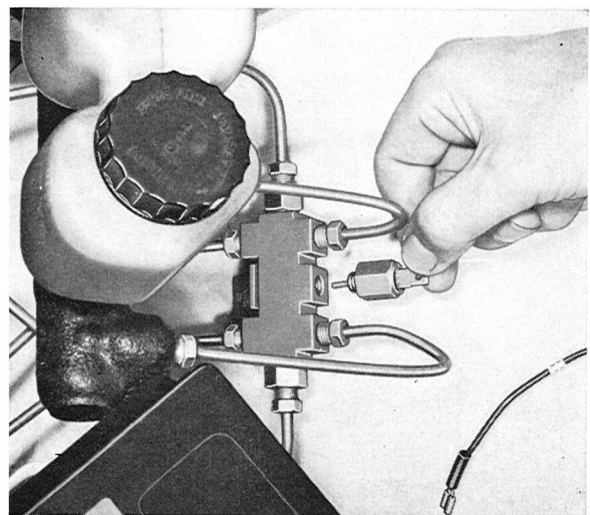

Fig. 5-52. Removing warning switch
1. Disconnect the electrical wire and screw out the warning switch (Fig. 5-52) so that the pistons return to normal position.
2. Clean round the cap on the brake fluid container, also round the contact on the warning valve. Remove the warning switch, see Fig. 5-52. Fill if necessary with brake fluid to the "Max" mark on the container.
2. Clean round the cap on the brake fluid container as well as round the switch on the warning valve. Remove the warning switch, see Fig. 5-52. If necessary, fill the container with brake fluid up to the "Max." mark. Blow the vent-hole of the cap clean.